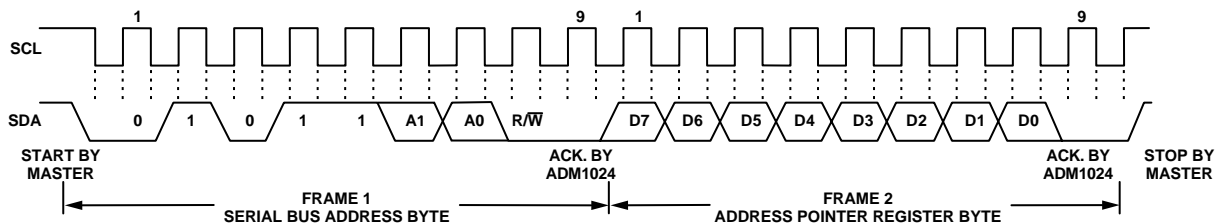

Figure 2b. Writing to the Address Pointer Register only
- If the ADM1024's Address Pointer Register value is unknown or not the desired value, it is first necessary to set it to the correct value before data can be read from the desired data register. This is done by performing a write to the ADM1024 as before, but only the data byte containing the register address is sent, as data is not to be written to the register. This is shown in figure 2b.
- If the Address Pointer Register is known to be already at the desired address, data can be read from the corresponding data register without first writing to the Address Pointer Register, so figure 2b can be omitted.